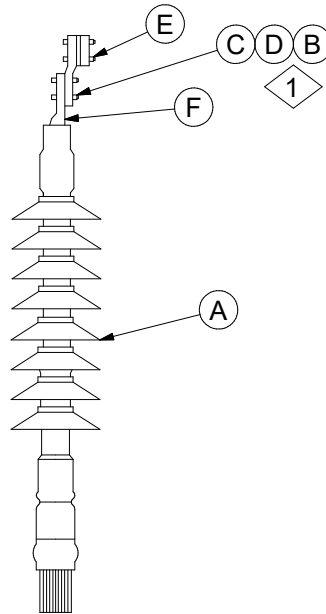

Figure 15
17. Attach the bronze four bolt lug to the compression or shear head bolt lug. If the terminator lug is being attached directly to a flat surface the bronze connector may be omitted. (Figure 15)